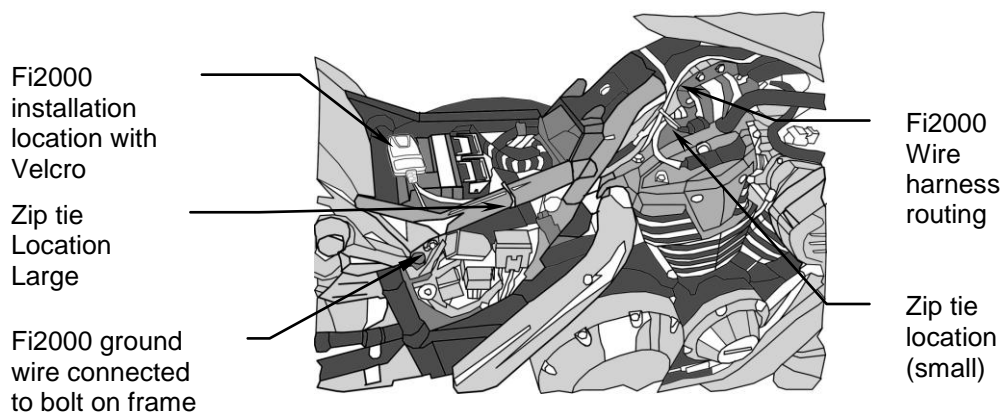

FIGURE 2
7. Attach the black ground wire to the bolt (10mm head) at the top of the area covered by the right-hand side panel. Position and Velcro the Fi2000 on to the ECU as shown in Figure 2.